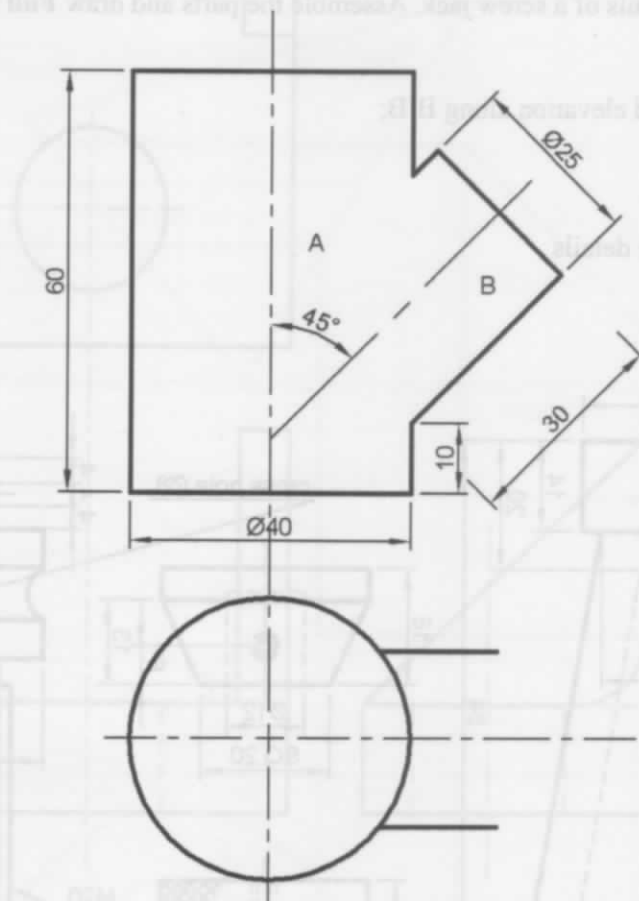

Figure 6
12. Figure 6 shows an incomplete front elevation and plan of two intersecting cylinders.